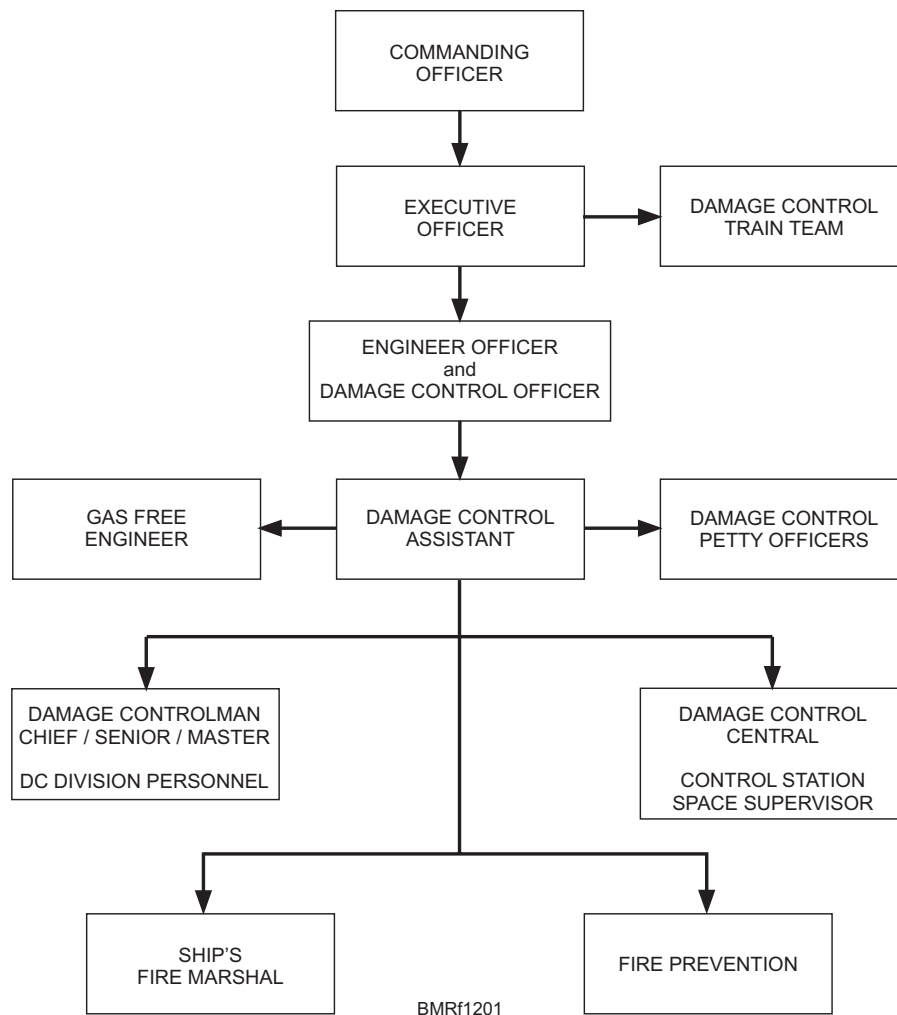

Figure 12-1.—Administration organization chain of command.
The damage control administrative organizational chain of command is shown in figure 12-1. As you can see, the responsibility for damage control begins with the commanding officer (CO) of a naval ship and runs to the most junior Sailor in the DC division and damage control petty officer community.
Look at figure 12-1. As you can see at the level of the ship's damage control assistant (DCA), other personnel report to the DCA. Each person has a different administrative responsibility and tasking. Each person reports back up the chain via the DCA.